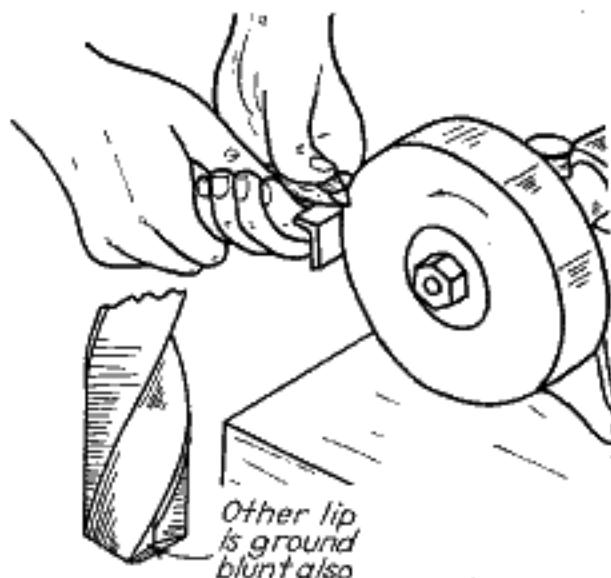

FIG. 145.—For drilling extremely hard or soft materials, the cutting edges may be ground blunt to give a scraping action.
**155. Grinding a Drill for Soft or Hard Materials.**—For drilling brass or other soft metals, or for drilling hard materials where heavy pressure is required, a drill ground with the usual shape has a tendency to gouge. To prevent this, the cutting lips may be made blunt by grinding narrow, flat surfaces on the front edges, the surfaces being parallel to the axis of the drill (see Fig. 145). The drill then has more of a scraping action.